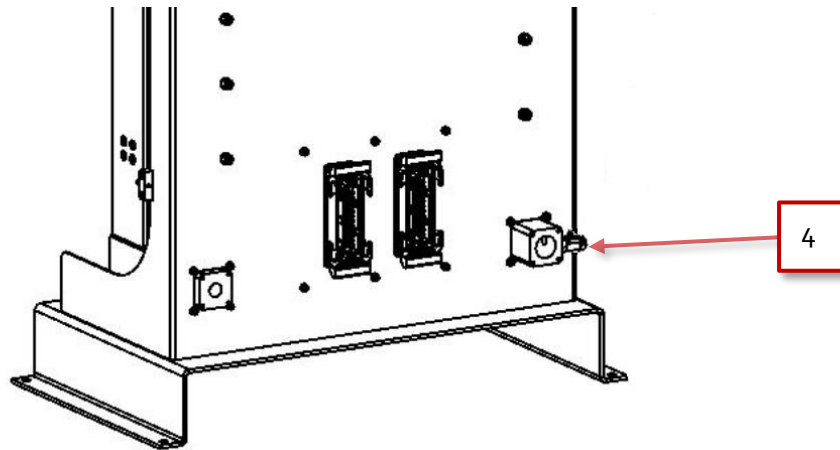

Figure 79 Open drain valve
4. Place a water container under the drain valve and open the drain valve gently to release the water pressure, see Figure 79.